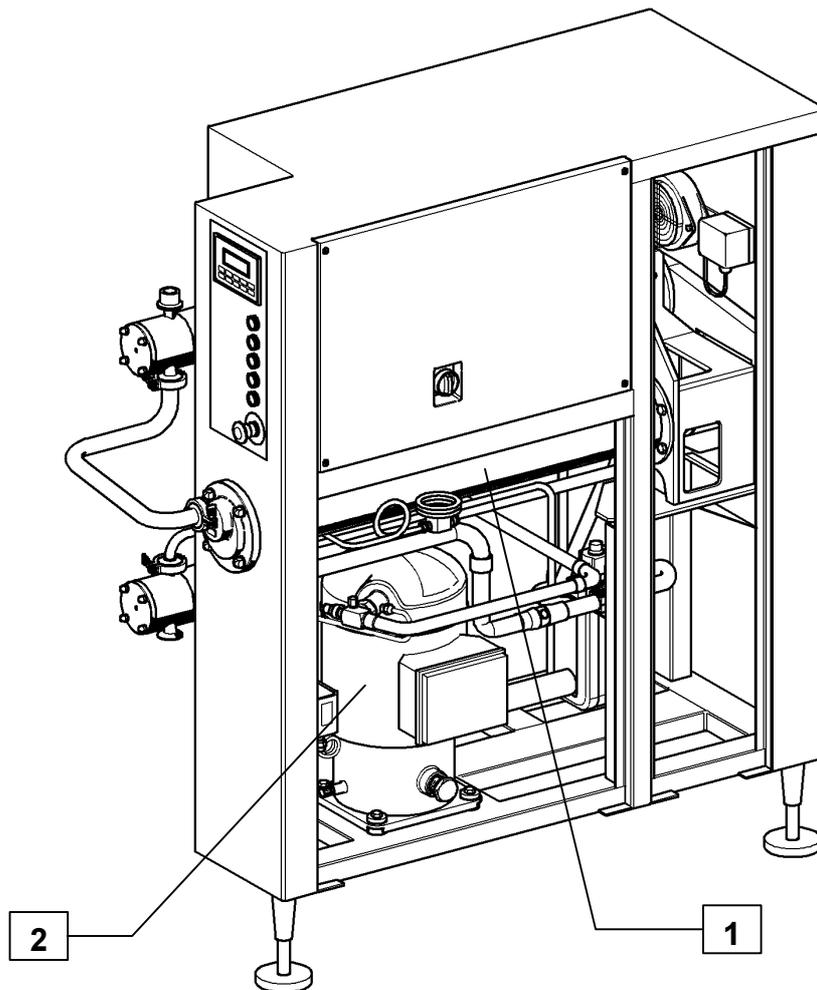

Fig. 3-6 – Freezing installation
It is composed of a frosting cylinder (Fig. 3-6 pos. 1) (evaporator), a rotatory Copeland Scroll (Fig. 3-6 pos. 2) compressor, a high efficiency condenser, the thermostatic valve and various minor fittings.
All these components are specifically foreseen and dimensioned for the low temperature functioning with R404A refrigerant gas. The cooling function is executed through gas compression: therefore, the compressor pumps the gas into the condenser where it is cooled and liquefied; the liquid gas obtained this way passes through the thermostatic valve and vaporizes in the frosting cylinder (Fig. 3-6 pos. 1) (turning back to the gaseous state) just to reach then the compressor and start the cycle again.